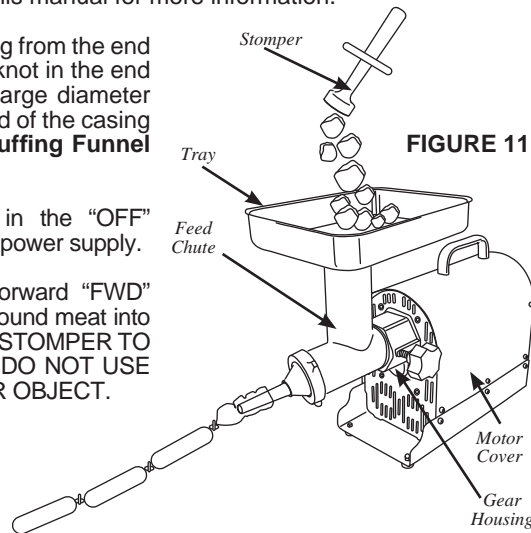

FIGURE 11
5. Slide 4”-6” (10-15 cm) of casing from the end of the **Stuffing Funnel** and tie a knot in the end of the casing. If you are using large diameter fibrous casing, hold the closed end of the casing tightly against the end of the **Stuffing Funnel** (Figure 11).